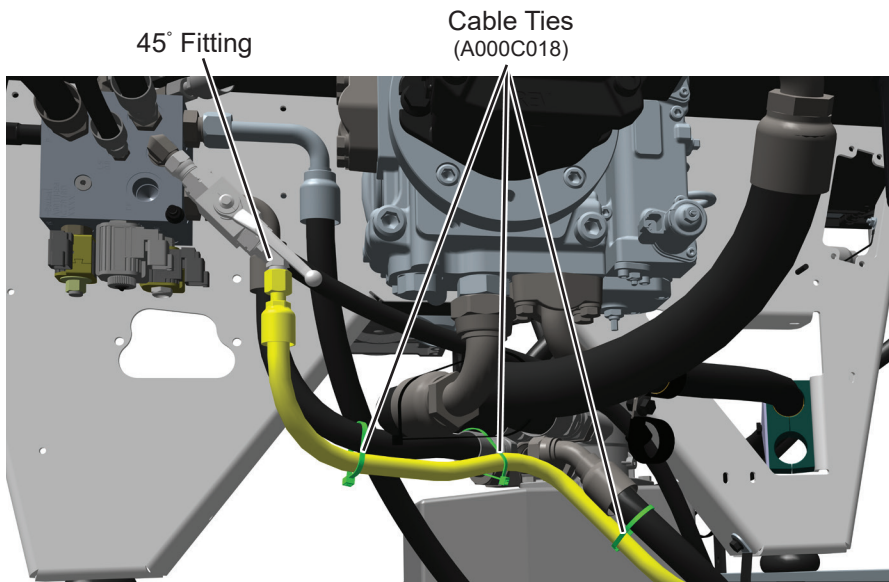

Figure 16. Hose Routing
24. Reconnect hydraulic hose #3041 disconnected in Step 21 to ball valve assembly 45° fitting. See Figure 16. Final tighten hose end to 45 ft. lbs.
25. Route hydraulic hose #3041 and secure with cable ties (A000C018) as shown in Figure 16.